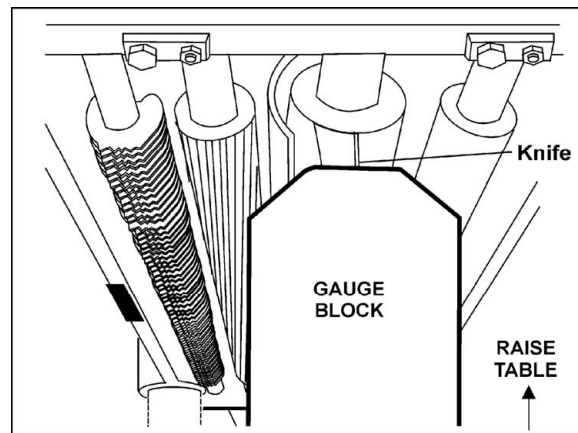

Figure 21
2. Place the gauge block (Figure 21) on the work table directly under the edge of a knife as shown. Make slight contact by gently raising table.